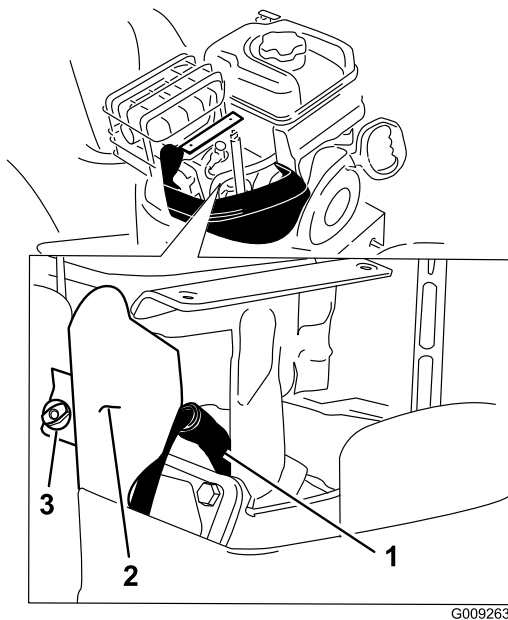

Figure 58
- Remove the bracket thumb screw and the bracket (Figure 58).
- Clean around the base of the spark plug (Figure 58).